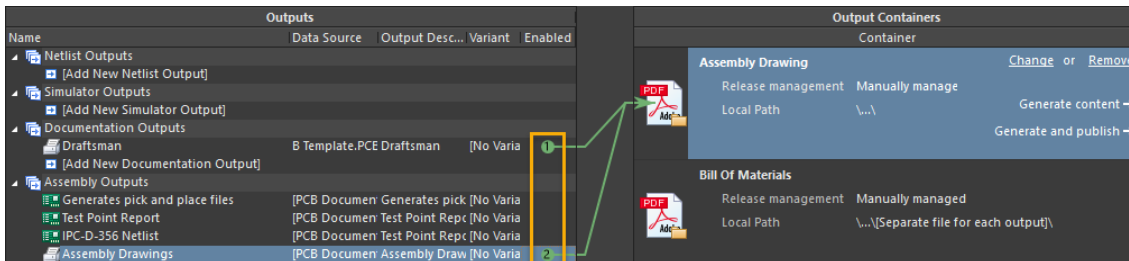

Figure 24. Targeting Assembly Drawing output to the Output Container
72. With the Assembly Drawing Output Container selected, click the radio button for both the Draftsman and Assembly Drawings Outputs we just created, as shown in Figure 24.